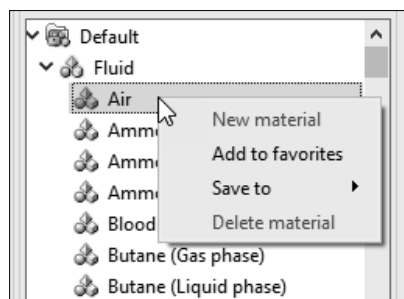

Figure-17. Add to favorites button
- If you use some of the materials frequently for analyses then you can add these material to your favorite material list. To do so, right-click on the material, a right-click menu will be displayed; refer to Figure-17.